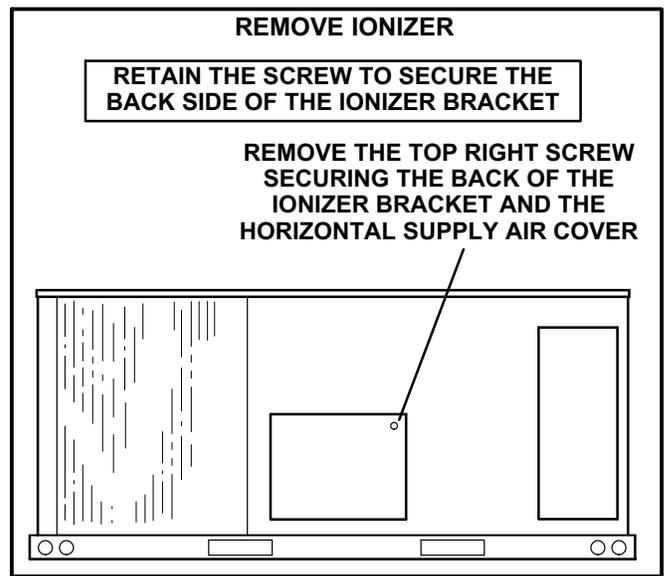

FIGURE 29
- 1- On the back side of the unit, remove the screw securing the back of the ionizer bracket. See figure 29. Retain the screw to secure the back side of the ionizer bracket.